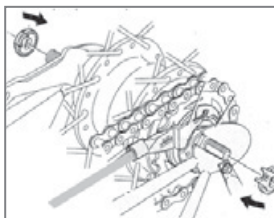

Fig. 70. Installation of adjusting washers
2. Install adjusting washers, Fig. 70.